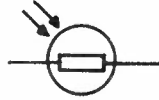

FIG. 16. TYPICAL LDR SYMBOL.
3.27 LDR SYMBOL. Fig. 16 shows one typical LDR symbol. Other symbols are used.